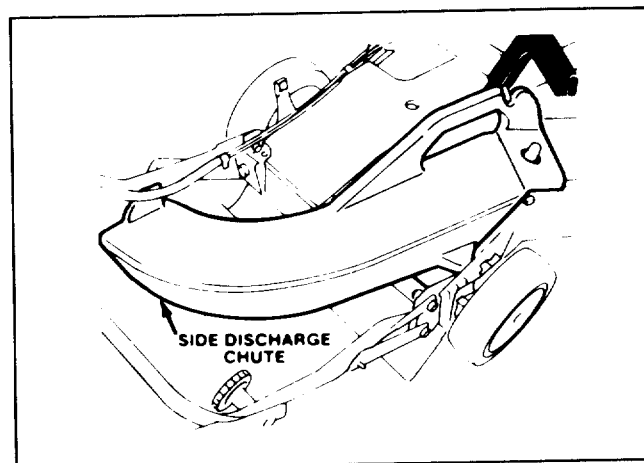

Figure 21
1. **Side Discharge Kit, Model No. 59168**—Installs in seconds. Rear mounted in place of the grass bag. Disperses clippings while trimming on both sides (Fig. 21).